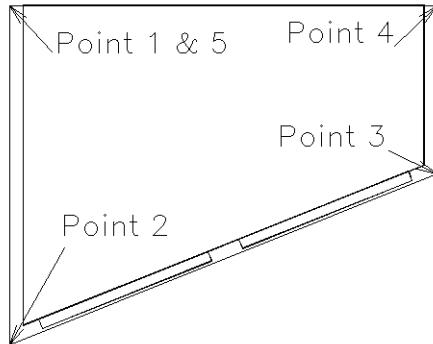

Figure 8
3. Set points at all changes in direction around the entire countertop, and use the **PLANE** (P) command to create a plane, figure 8. Radius outside corners if desired now. The **FILLET CORNER** command is found under the **EDIT** menu.